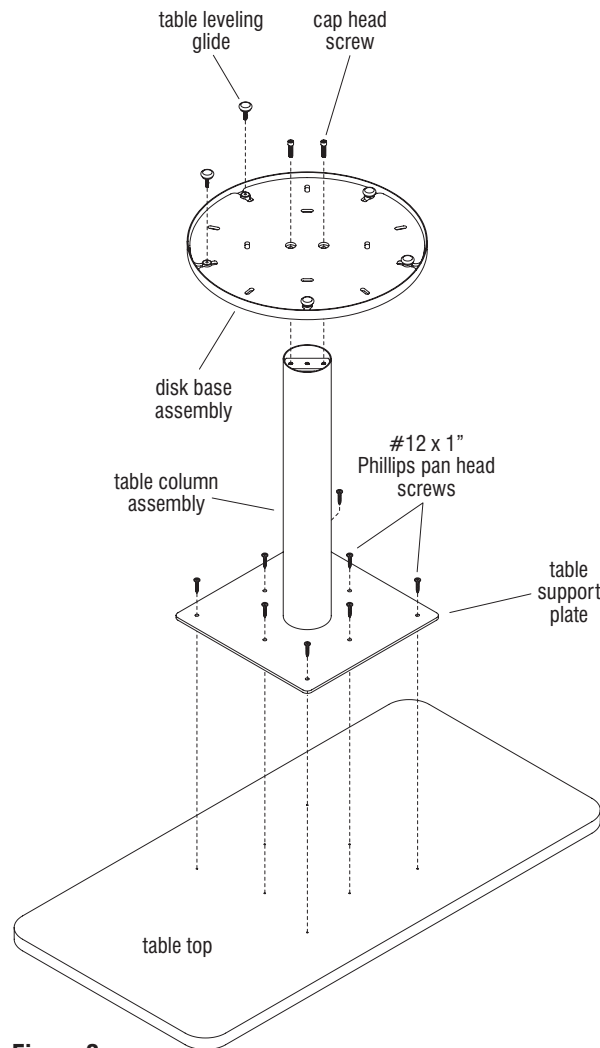

Figure 2
3. Carefully flip the table column assembly over so the table support plate is facing down. With the assistance of a second person, position the disk base assembly over the table column as illustrated in Figure 2, aligning the mounting holes in the disk with the threaded strap in the column. Insert two cap head screws through the disk and into the column, then thread in to secure. Tighten cap screws to between 20 and 25 foot pounds of force (Figure 2).
4. If not pre-installed, thread in five table leveling glides. Adjustment of glides may be necessary after table assembly is complete and table is set upright in its desired location (Figure 2).
5. Carefully set table top upside down onto a soft, protective surface. Position the table support plate of the table base assembly over the appropriate pre-drilled hole pattern in the underside of the worksurface. Secure using eight #12 x 1" Phillips pan head screws. Do not over-tighten (Figure 2).